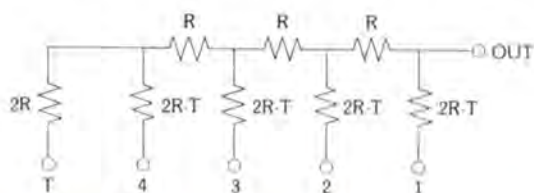

Figure 4. 4-Bit R/2R Ladder With Compensation For Semiconductor Switch Resistances
Transistor switches generally can handle more current than MOS devices; and as a result, the value chosen for the ladder resistance is less than that when MOS switches are chosen. Regardless of the type of switch used, compensation for the "ON" resistance of the device must be made. To compensate for switch resistances, the "ON" value of the switch resistance (T) is subtracted from each 2R resistor of the ladder as shown in Figure 4. For example, given switches with an "ON" resistance of 10 ohms, an ideal 10K/20K ladder becomes 10K/19.990K. These values then become the values specified for manufacture of the ladder. The "T" value need not necessarily be the same for each bit. When, for example, the switches for the first bits